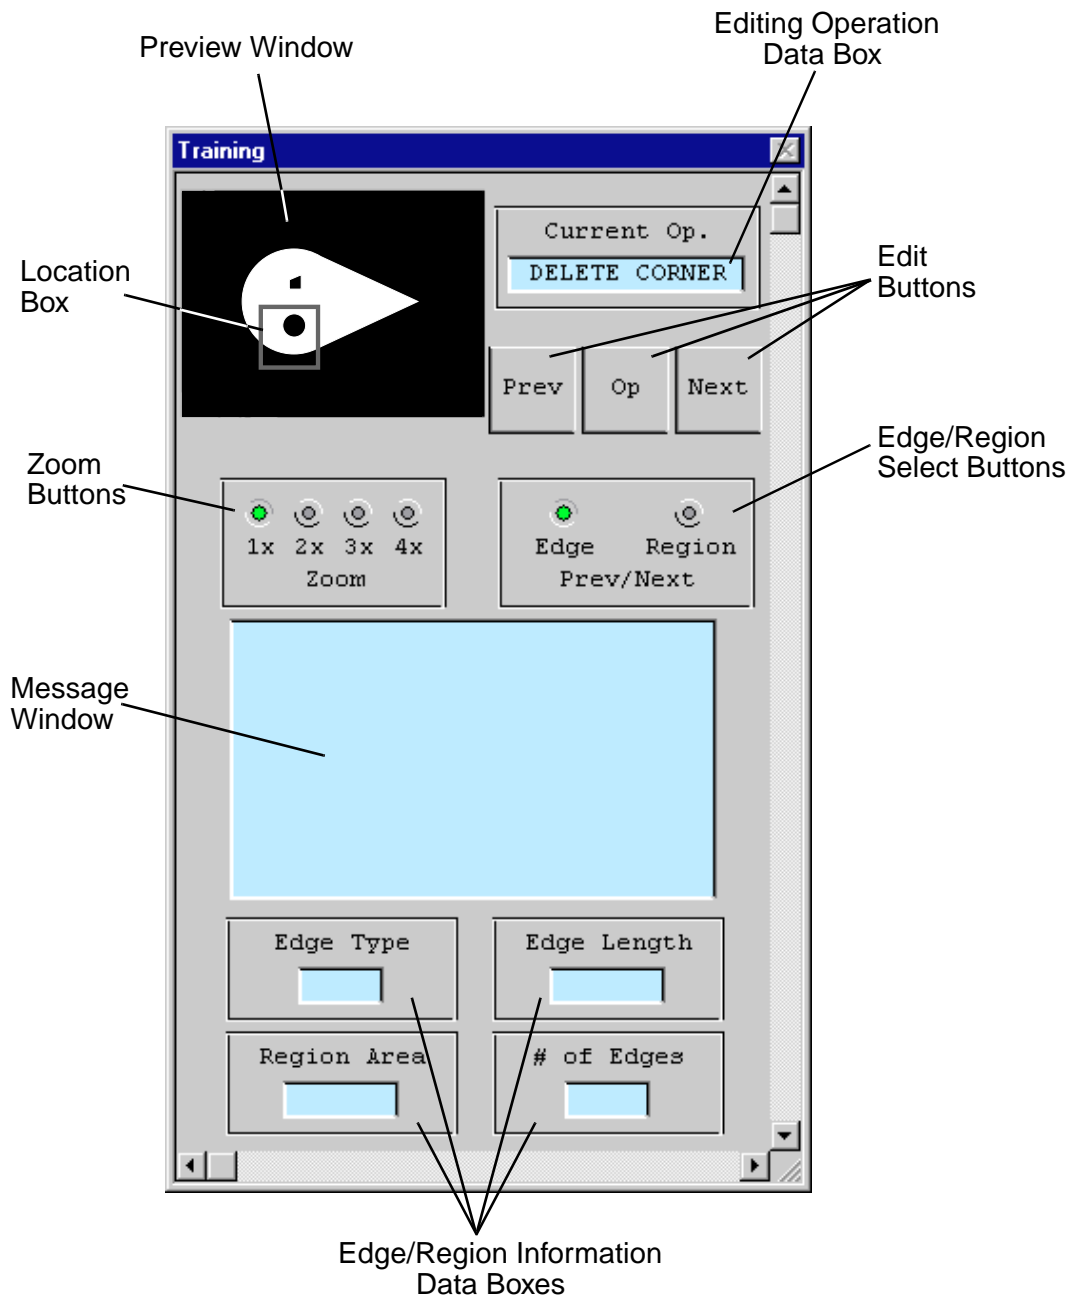

Figure 12-1. Prototype Editing Operations
**Figure 12-1** shows the prototype training window and its functional groups of features. The process of editing a prototype using the training window is described in the following sections.